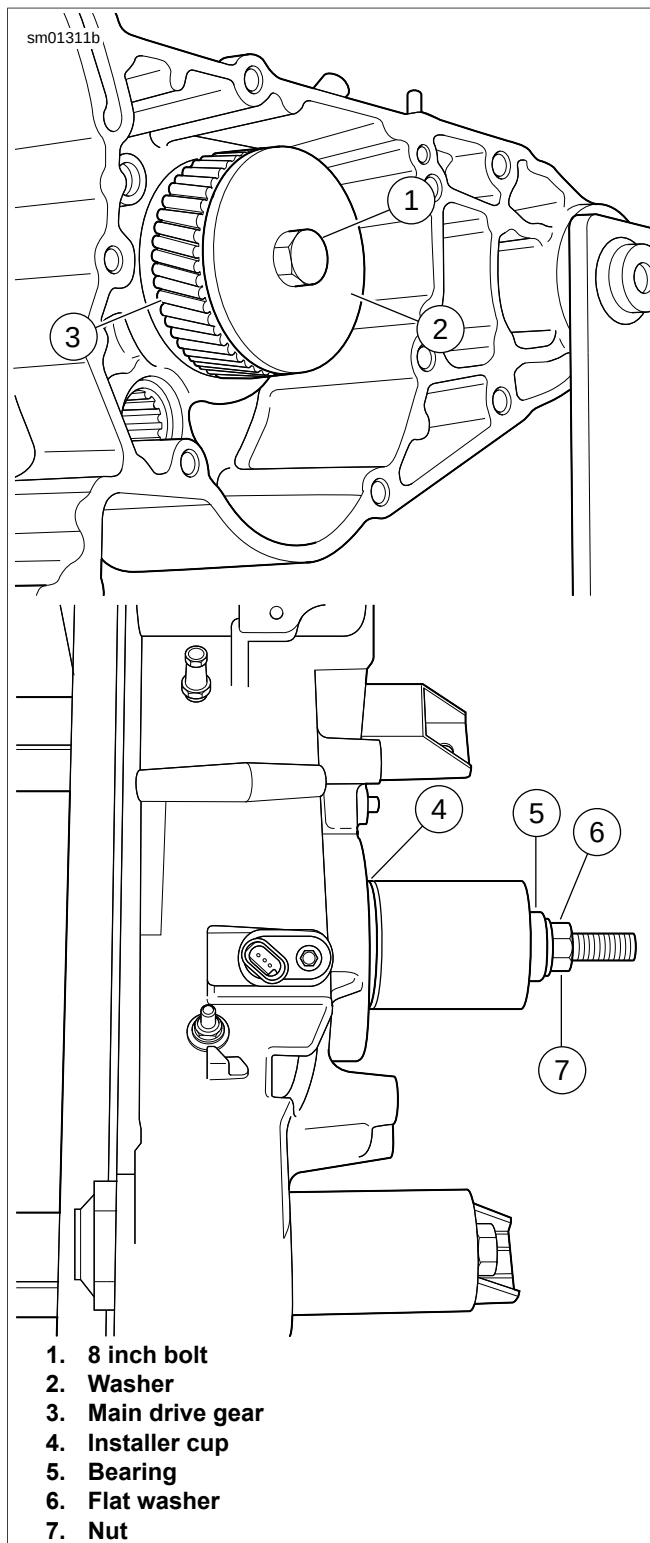

Figure 5-79. Installing Main Drive Gear (typical)
3. See Figure 5-79. Insert 8 INCH BOLT (Part No. HD-35316-4A) (1) through WASHER (Part No. HD-35316-7) (2) and main drive gear (3). From inside of case insert bolt with washer and main drive gear through inner race of main drive gear bearing.
4. At outside of case, place INSTALLER CUP (Part No. HD-35316-12) (4), BEARING (5), FLAT WASHER (6) and NUT (7) over end of bolt. Tighten nut until main drive gear bottoms against main drive gear bearing.